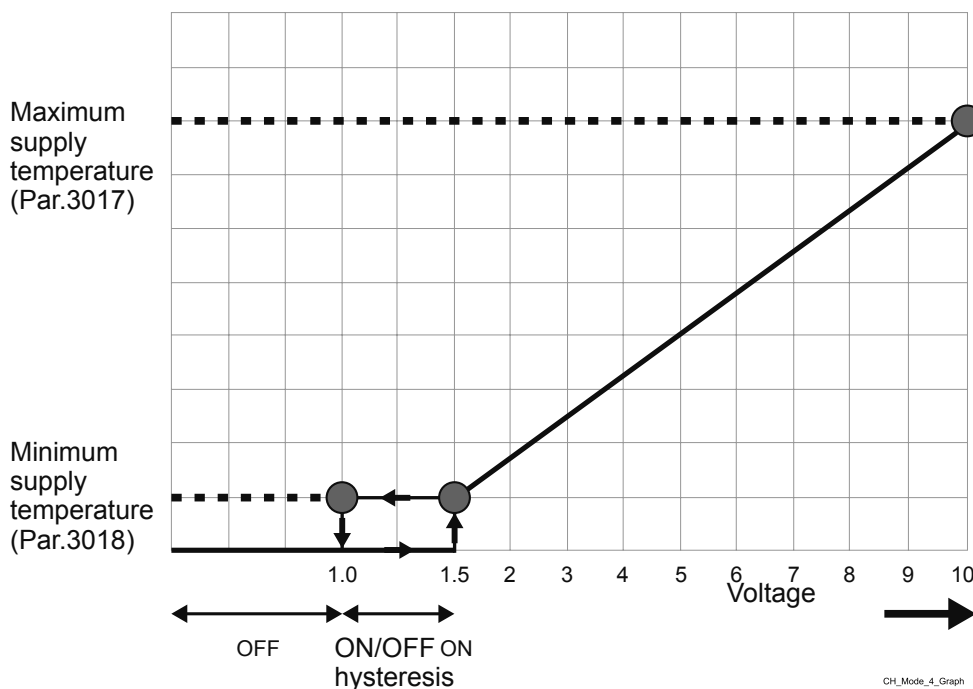

Figure 13-3 - 0-10 Vdc analogue input operating rules
- 2.- The appliance can now be controlled via 0-10 VDC signal as shown in figure 13-3;